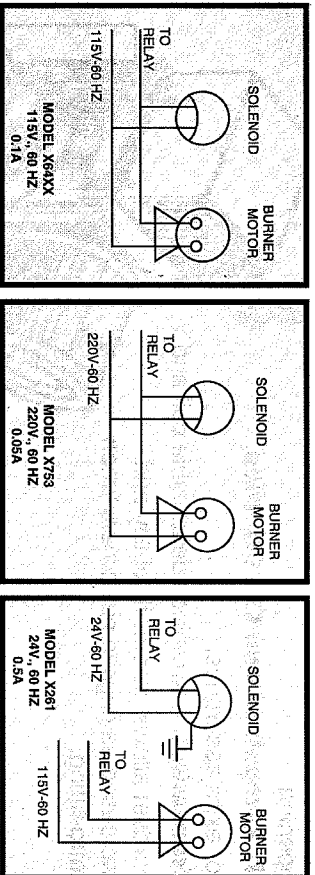

Figure 3. Solenoid Wiring
The shut-off valve should be installed in accordance with local and national safety codes. (See Figure 3 - wiring diagrams)
B. WIRING (See Figure 3)
2. Attach the solenoid leads according to Figure 3 and the burner or appliance manufacturer's instructions.